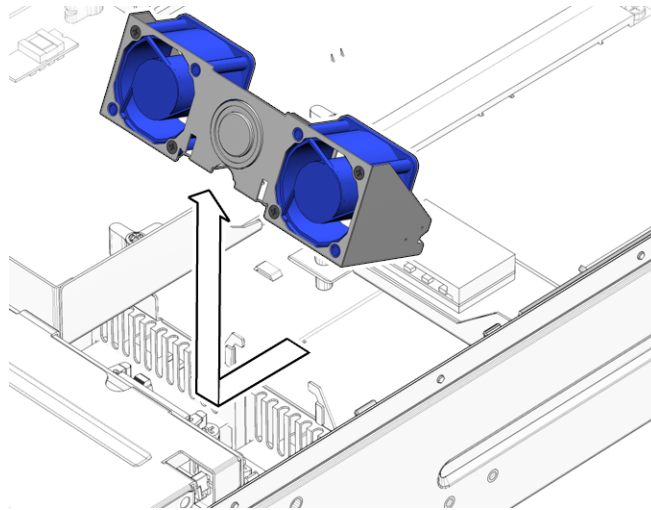

FIGURE 5-14 Lifting Out the Hard Drive Fan Assembly
5. Slide the bracket forward and lift the hard drive fan assembly out (FIGURE 5-14).